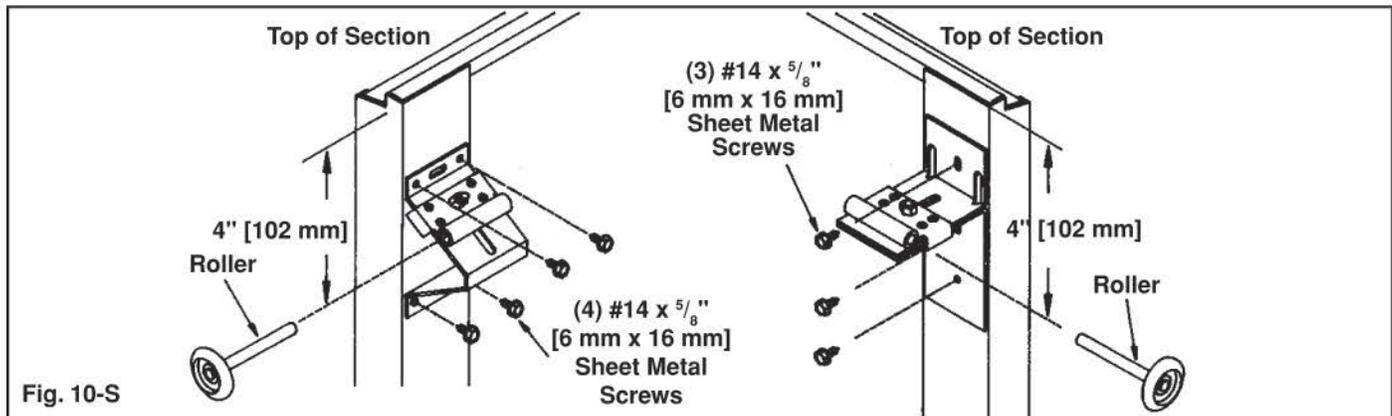

Fig. 10-S
Step 7: Top Section. Place top brackets over pre-punched holes so they are flush with edge of section. Center of roller carrier will be about 4" [102 mm] down from top of section. Using four #14 x 5/8" [6 mm x 16 mm] hex head sheet metal screws per top bracket, attach top brackets to section. (FIG. 10-S) (Low headroom doors 3/4" [19 mm] refer to Figure 7-T, page 23.)